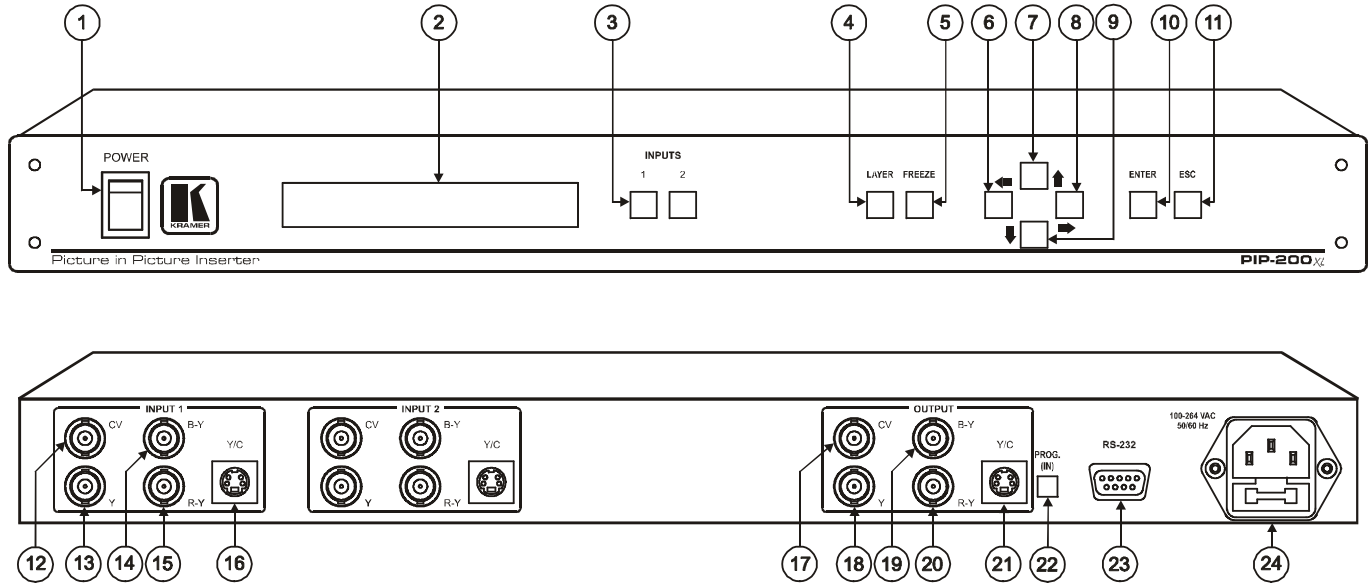

Figure 1: PIP-200xl Picture in Picture Inserter
- Figure 1 illustrates the **PIP-200xl** *Picture in Picture Inserter*